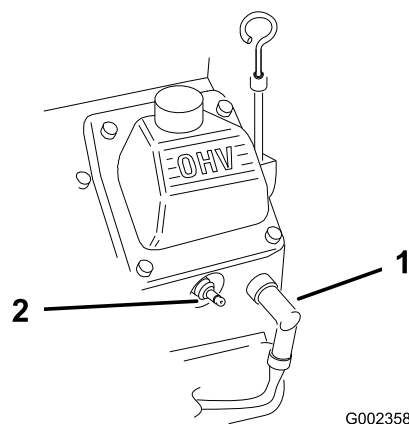

Figure 32
3. Disconnect the wires from the spark plugs (Figure 32).
3. Connect the wires to the spark plugs (Figure 32).